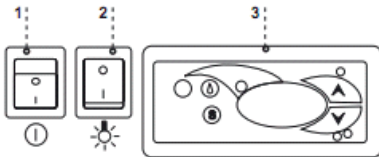
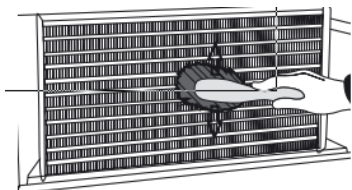

Fig.8 Control panel of the device
Fig.9 Cleaning the condenser
- Place the condensate container on the basis of the device according to Fig.8/3 (p.20) or Fig.9/3 (p.22)